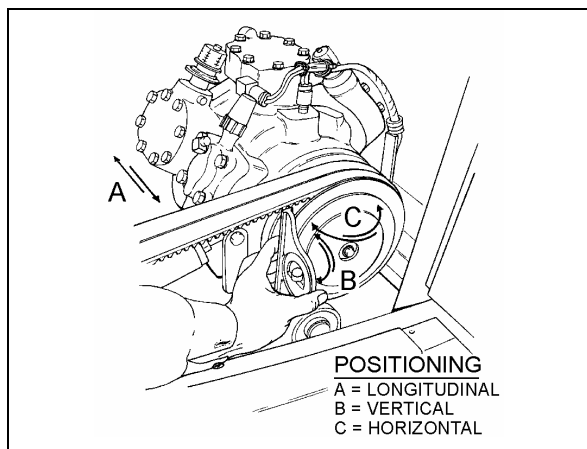

FIGURE 23: COMPRESSOR ALIGNMENT
1. Rest an extremity of a straight edge of approximately 46 inches (117 cm) against the upper part of the outer face of crankshaft pulley, positioning the other end close to the compressor clutch pulley (Figs. 23 & 24).
2. Check the distance between each extremity of straight edge (1. Fig. 23) and the first drive belt. If they are different, loosen the compressor support bolts and with a hammer, knock support to slide it in order to obtain the same distance; then tighten bolts.
Rest a short "angle and level indicator" on the outer side face of the crankshaft pulley, adjust the level indicator inclination at 0° and check if the compressor pulley is at same angle (Fig. 23). If it is not the same, shim under the appropriate pillow block in order to obtain the correct angle.